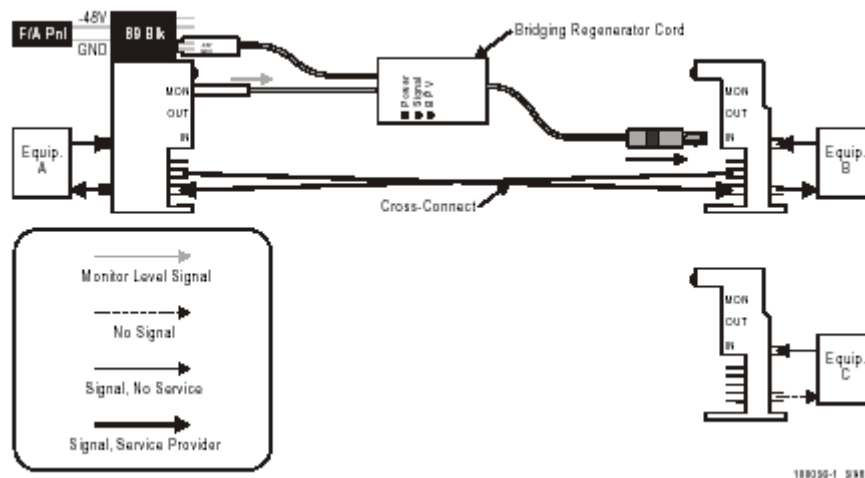

Figure 1.
1. Prepare (daisy-chain) 200-pair 89-type block(s) (Material ID 104 164 835) to distribute -48 V and ground. The 89-type blocks provide power to the Bridging Regenerator Cords (Figure 1).